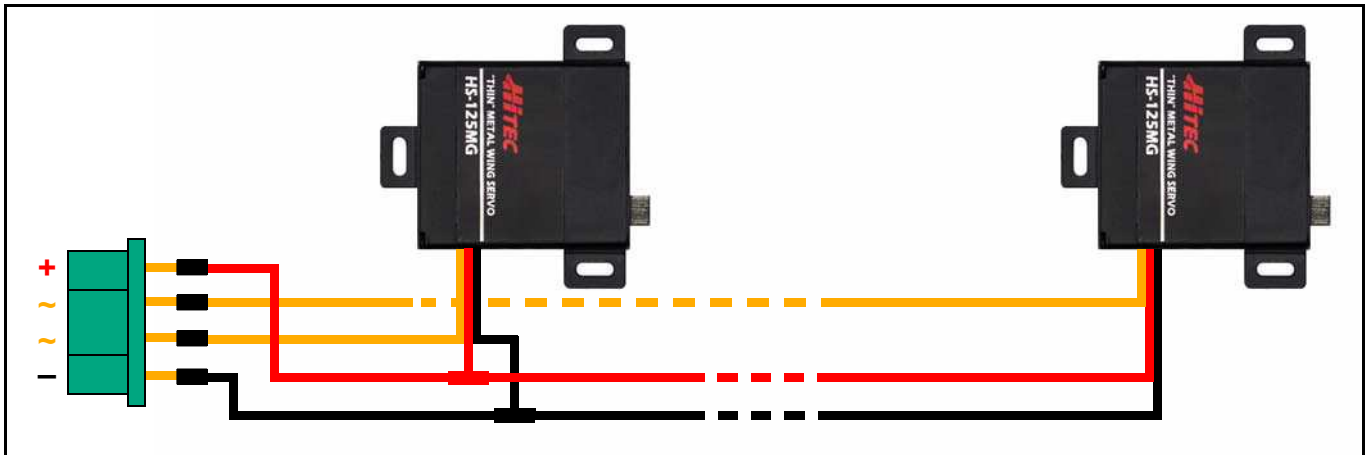

Fig.118: Connection diagram for the wing servos (the same for the other wing).
The the wing servos connection needs just four wires to connect following the diagram shown in figure 118.
- solder the wires to the connector "MPXM" as shown in the diagram in figure 118;